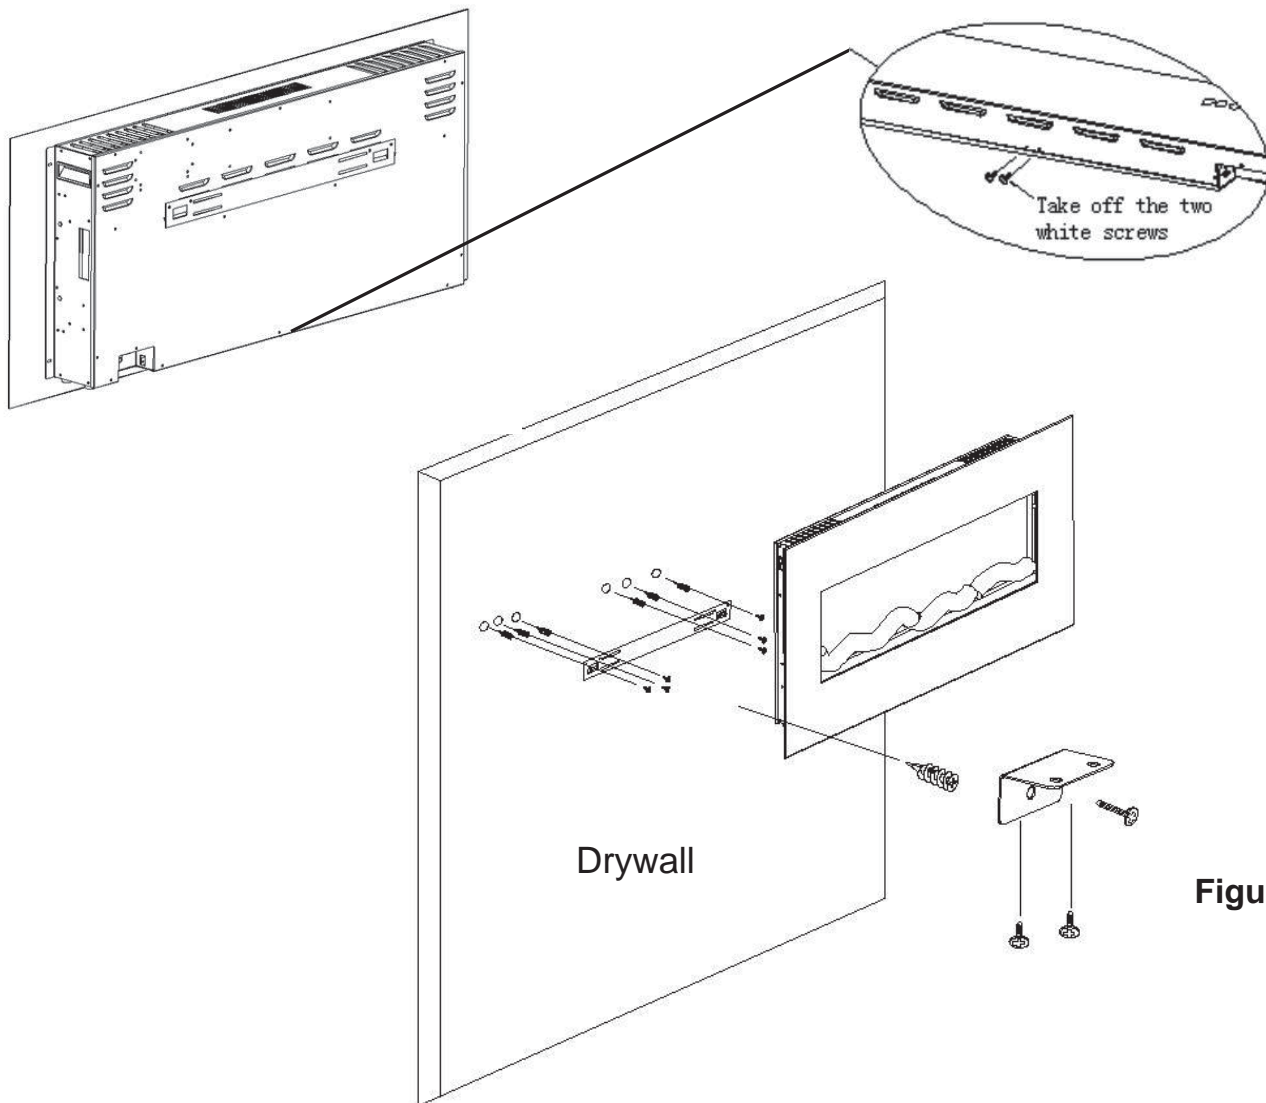

Figure 2.
B. Take off the two white screws on bottom of the fireplace box, then installed the ‘L” shape mounting bracket one side to attached the bottom of fireplace with the two white screws, another side to attached to wall with one **Drywall anchors (C)** & **Wood screw (B)** to lock them tightly. **Figure 2.**